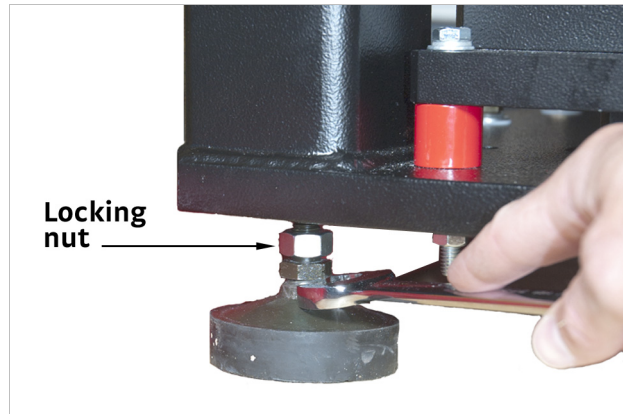

FIGURE 3-9 Locking the vibration dampening feet locking nut
- f. Using a  $\frac{3}{4}$  in or adjustable wrench, lock the vibration dampening feet locking nuts up against the bottom of the probe station stand (FIGURE 3-9).